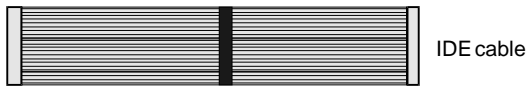

Figure 1-1
- ❑ One 40-pin IDE connector ribbon cable (Figure 1-1)